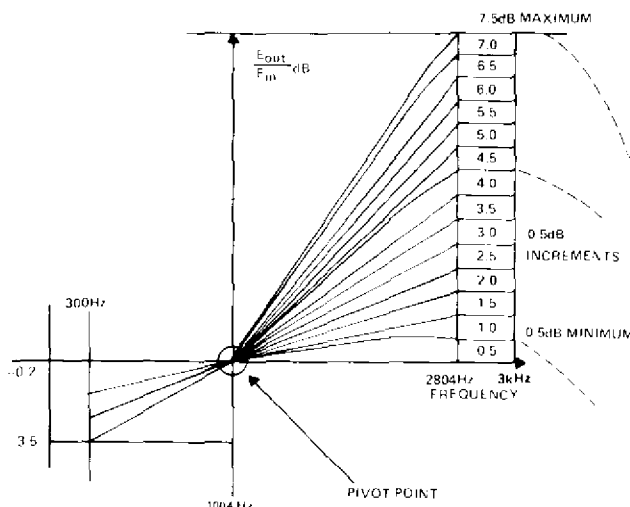

figure 2. Typical response curves for receive-channel equalizer
2.04 Up to 7.5dB of prescription-set active slope equalization at 2804Hz (re 1004Hz) is available in the receive channel of the 263DA-2 and 263DB-2. The amount of equalized gain introduced into the receive channel is selected, in 0.5dB increments, by a four-position DIP switch on each unit's equalizer subassembly. Typical flatness achievable with the slope equalizer is  $\pm 0.3$ dB from 404 to 3200Hz (re 1004Hz). Typical frequency response of the equalizer is shown graphically in figure 2 and in tabular form in table 2.
2.05 As can be seen in figure 2, the response curves of the slope equalizer "pivot" at 1004Hz. Thus, the equalizer has no effect upon 1004Hz levels. As a result, equalization can be introduced into the receive channel of the 263DA-2/DB-2 not